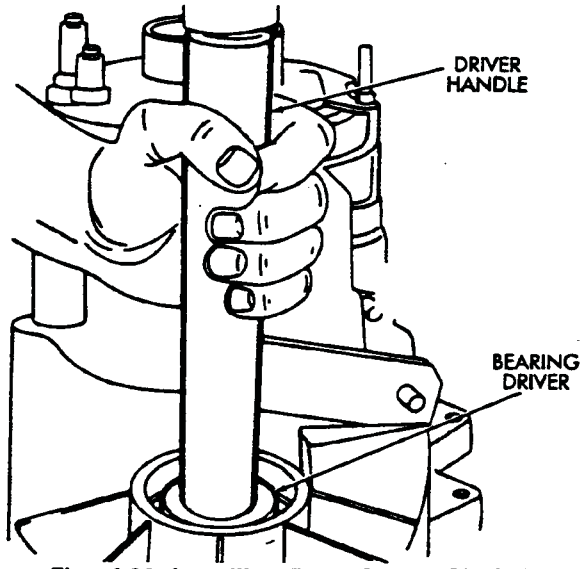

Fig. 4-29 Installing Front Output Shaft Front Bearing
7. Install the new front output shaft front bearing (Fig. 4-29).